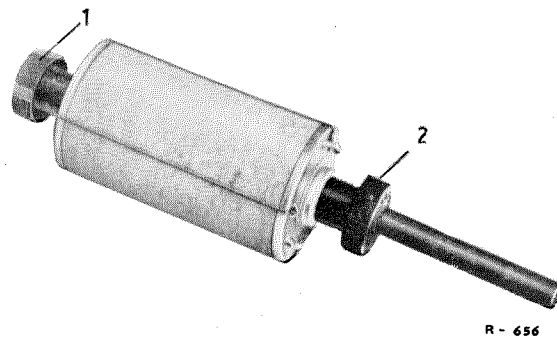

Figure 09-3/2
1. The filter must be emptied before the removal of the filter element. Open first the bleeder screw (3) and then unscrew the sludge drain plug (13) and drain the filter (see Figure 09-3/1).
2. Disconnect the feed line (12) to the injection pump. After that loosen the adjusting nut (4), remove the housing cover (1) and take out the filter element (see Figure 09-3/1).
Close the two ends of the felt pipe element with suitable plugs. We recommend for this purpose the use of the Bosch cleaning device EFEP 143 A (see Figure 09-3/2).